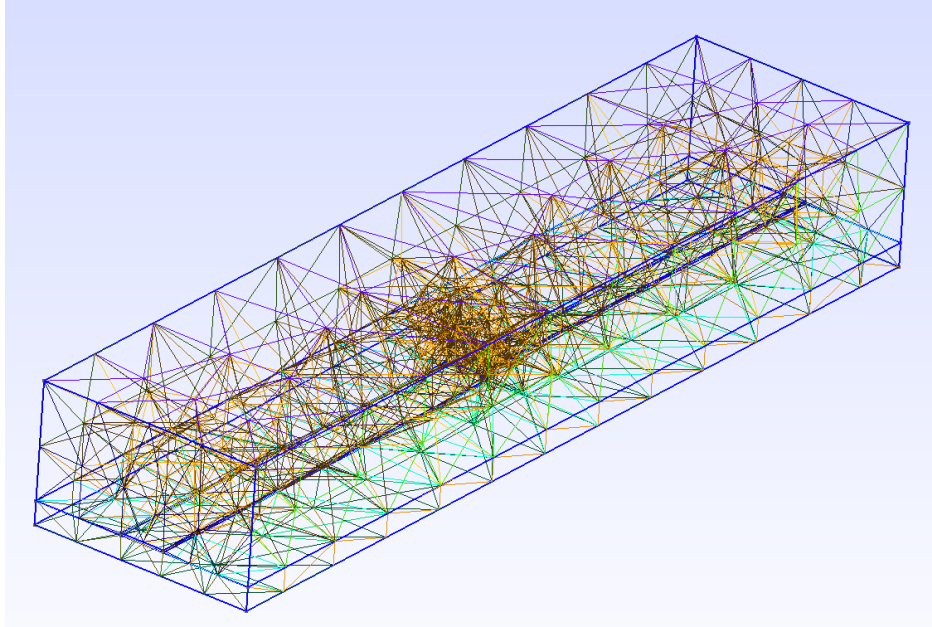

Figure 14: Screenshot of the meshed microstrip step in width.
- Mesh the geometry by selecting in the options tree click **Mesh**→**3D**. A screenshot of the mesh is shown in Fig. 14.